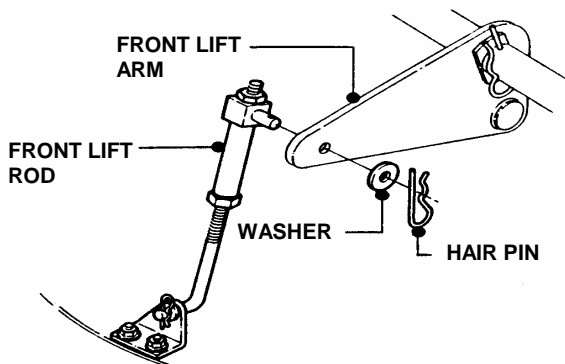

FIGURE 4.22
4. Disconnect the deck lift rod from the front lift arm. See Figure 4.22.